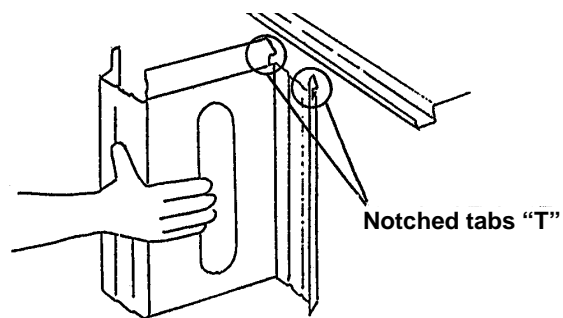
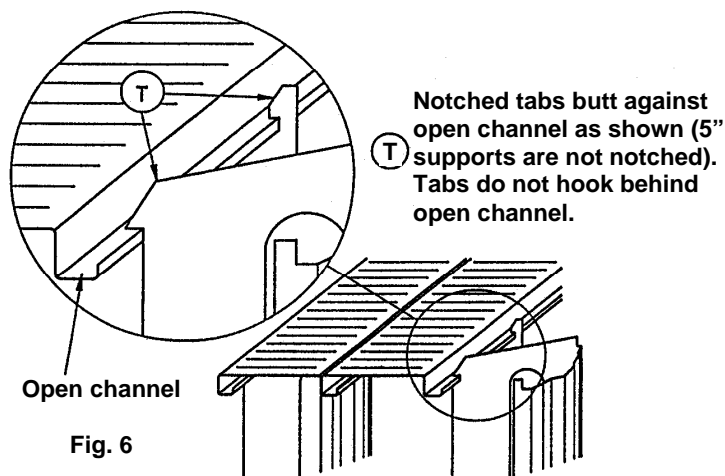

Fig. 5
Fig. 6
5. Position next row of supports at required spacing. Slide each support against open channel of previously installed plank as shown in Fig. 5 so that both notched "T" tabs fit over open channel. See Fig. 6.